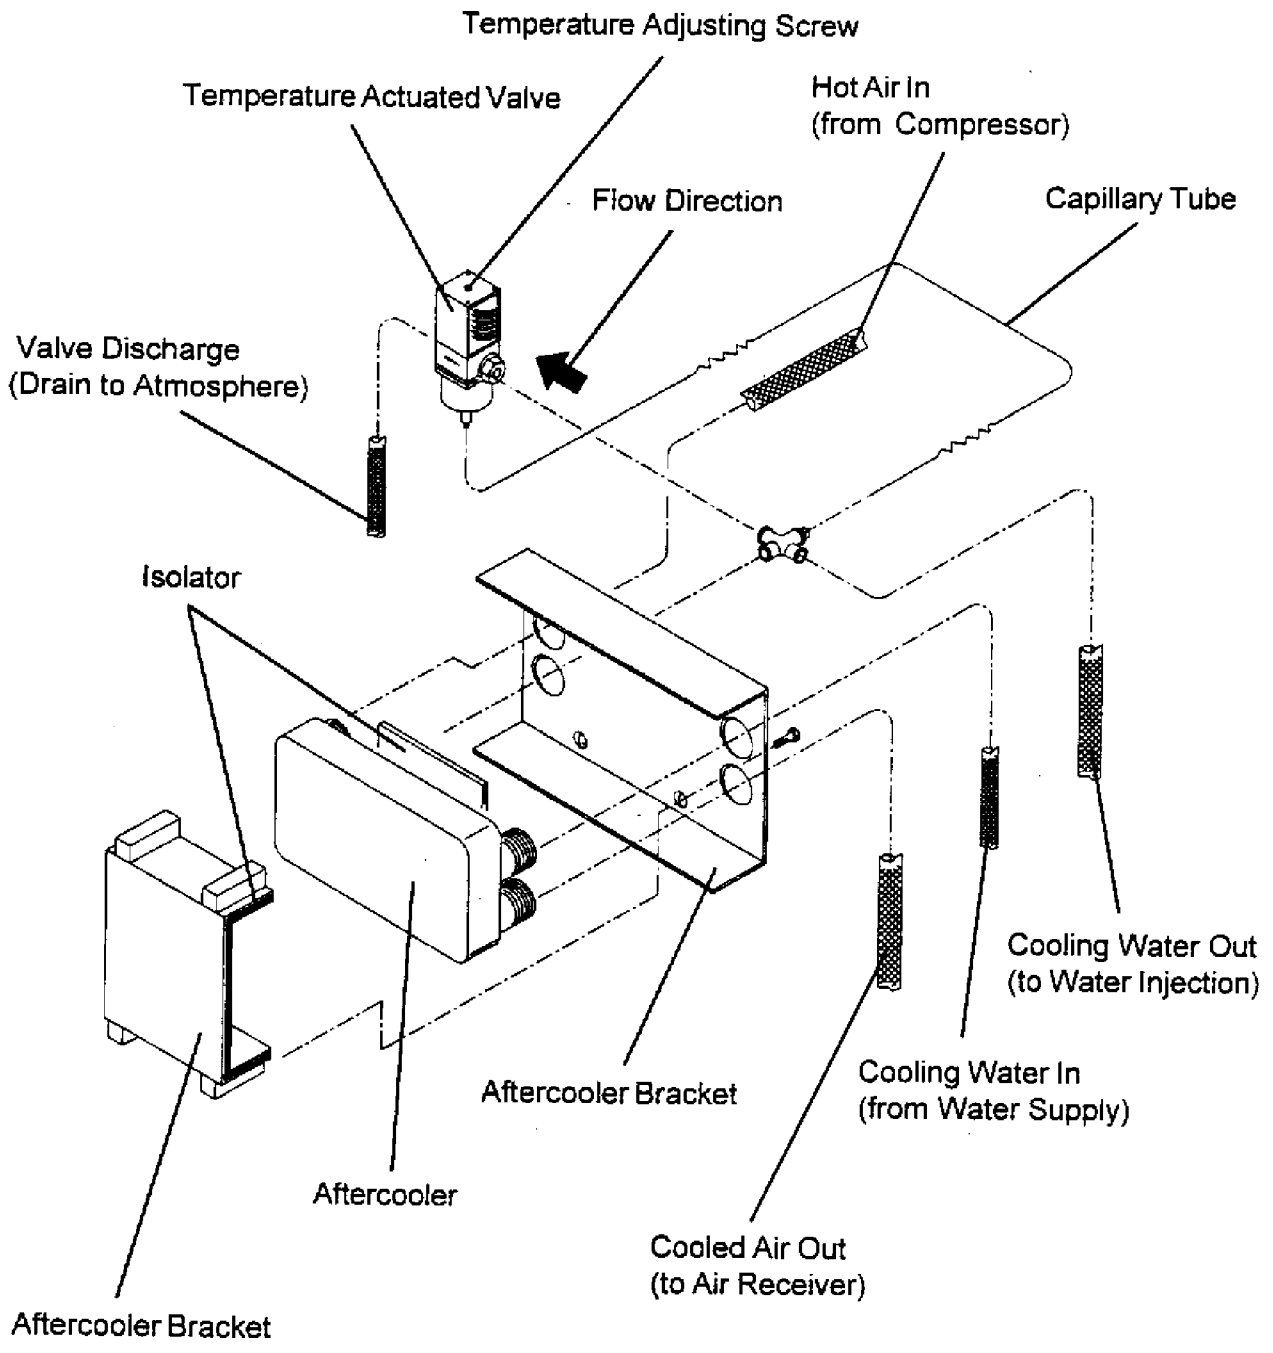

FIG. P-020-1 - AFTERCOOLER CIRCUIT
When the drill is operating at high pressure, the operator must monitor the temperature actuated valve occasionally to ensure that water is flowing from the discharge hose (See Fig. P-020-1). When the operator turns the drilling air off, the air compressor unloads, causing the discharge air pressure to drop. This reduces the discharge air temperature. The temperature actuated valve senses the temperature change and stops the water flow.
- 1) Locate the temperature actuated valve (Fig. P-020-1)